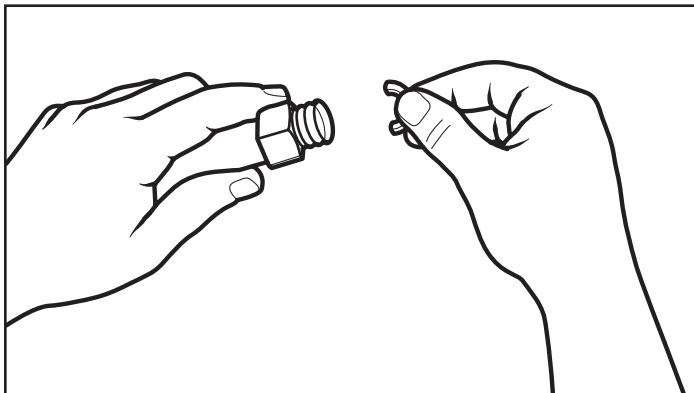

Figure: 4-4
3. INSTALL FITTING NUT: Slide the nut over the cut end: place two split rings into the first corrugation next to the tube cut. Slide the nut forward to trap the rings (Figure 4-4).